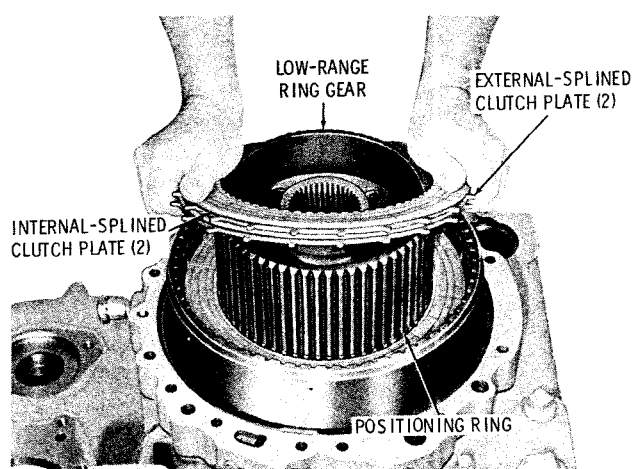

Fig. 7-32. Installing high-range clutch plates (-3 underdrive model)
(7) Install two external-splined and two internal-splined, low-range clutch plates, stacked alternately as shown in figure 7-32.
(8) Install high-range clutch back plate 17 (B, foldout 11), flat side first. Retain it with the large internal snapping 18.